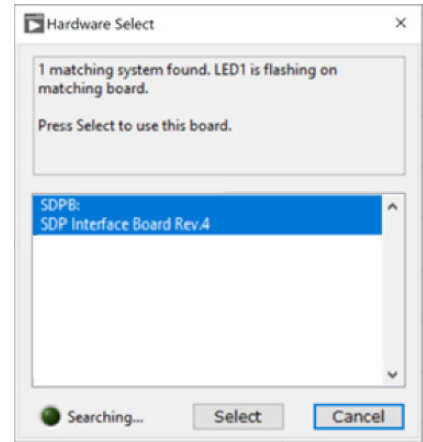

Figure 9. Hardware Detection
- To use the board, connect the setup to the computer using a USB cable. Once connected, the software automatically detects the hardware, and user can select it for use (see Figure 9).